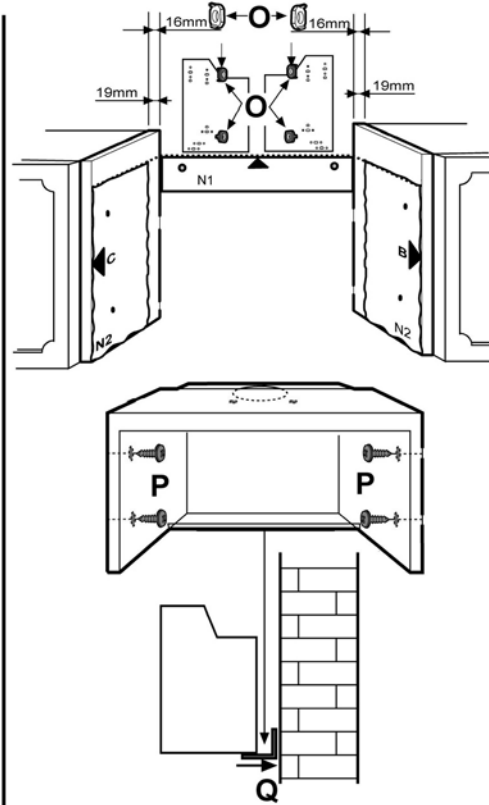

Fig. 8
- Use perforation diagram N2 (*). Position the diagram on the front edges of the wall unit (right wall unit, B side) – (left wall unit, C side) WITHOUT CONSIDERING THE THICKNESS OF THE DOORS, and make the holes as indicated. Fig. 8
- In case the thickness of the lateral wall units is 16mm, put, with embedded fixing, the O (*) spacers at the sides of the hood in correspondence with the holes used for the passage of the fixing screws to the lateral wall units. Fig. 8.
- Fix the hood to the lateral wall units with 4 screws P. Fig. 8